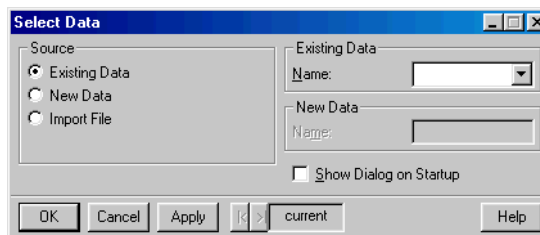

Figure 2.5: *The **Select Data** dialog.*
1. From the main menu, choose **Data ► Select Data**. The **Select Data** dialog opens, as shown in Figure 2.5.